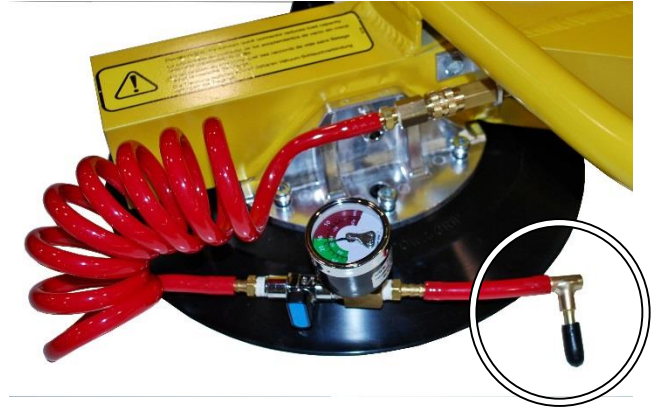

FIGURE 10
- 7) Parts can also be tested by using the ball valve assembly and plugs. In **FIGURE 10**, a pad suction fitting (circled item) is being individually tested by connecting the capped fitting to a short piece of hose and connecting the hose to the end of the ball valve assembly with the vacuum gauge. The other end of the ball valve is connected to the original hose that was previously connected to the suction fitting currently being tested.